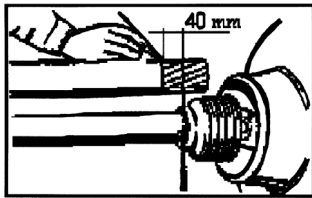

FIG 4.1
4. Mark, in the shortest working position, on a half that Drive shaft the piece which can be sawed off. (Fig. 4.1)